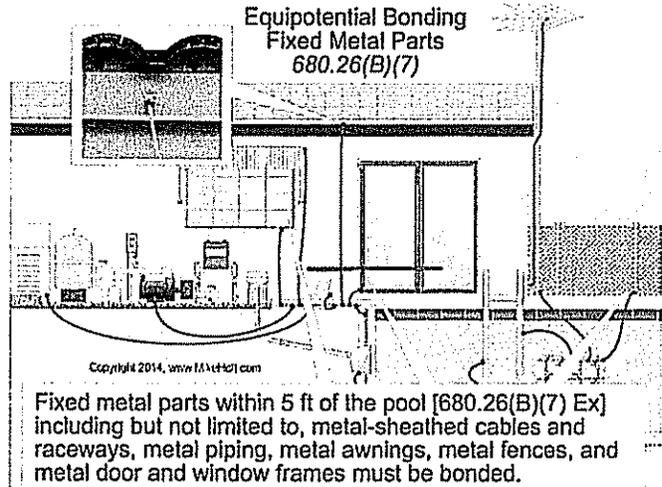

Figure 680-46
**(7) Fixed Metal Parts.** All fixed metal parts must be bonded to the equipotential grid, including but not limited to, metal-sheathed cables and raceways, metal piping, metal awnings, metal fences, and metal door and window frames. Figure 680-46